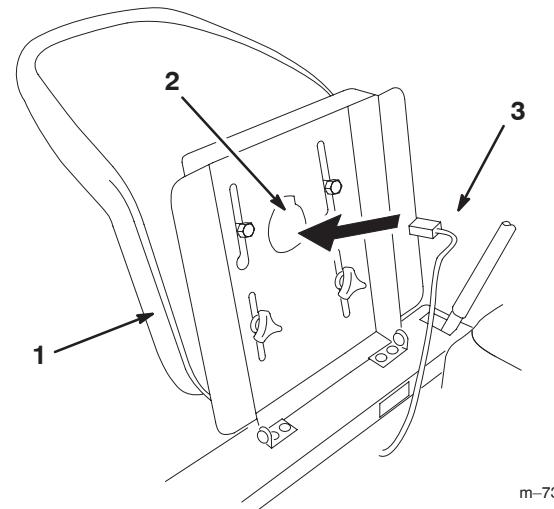

Figure 6
5. Connect the seat switch harness to the seat switch in the base of the seat as shown in Figure 6.